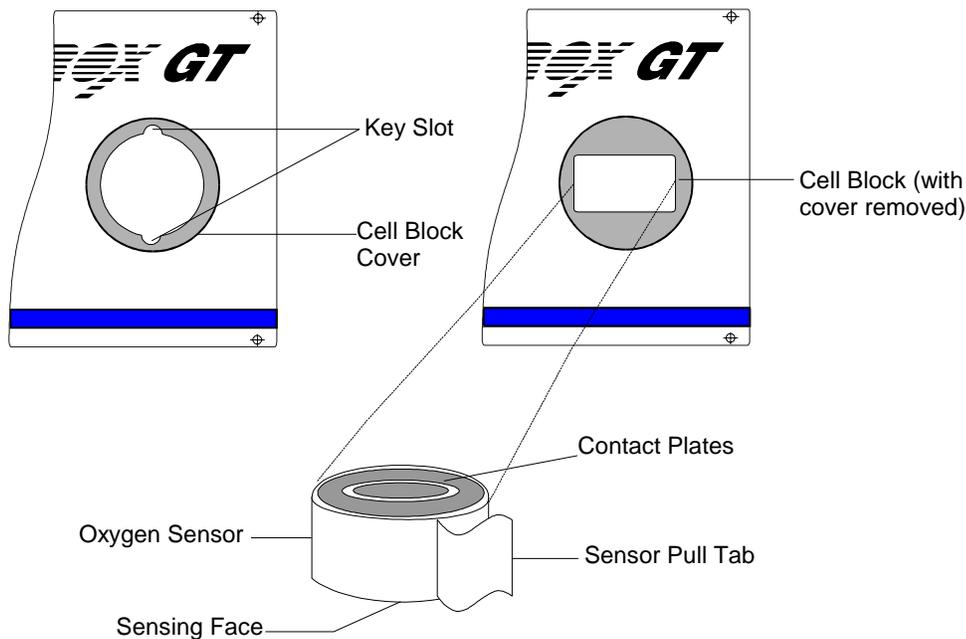

FIGURE 4-1. SENSOR INSTALLATION
10. Cut open the bag being careful not to damage the sensing face of the sensor. Quickly remove the sensor from the bag, remove the shorting clip and install in the cellblock with the contact plates on top and the sensing face on the bottom. Make sure that the pull-tab is facing forward and the writing on the label is right side up (see Figure 4-1).